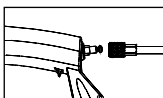

Fig.1
- Add a few drops of UNOCAL RX22 or 3-in-1 oil into the air inlet. (See Fig. 1)